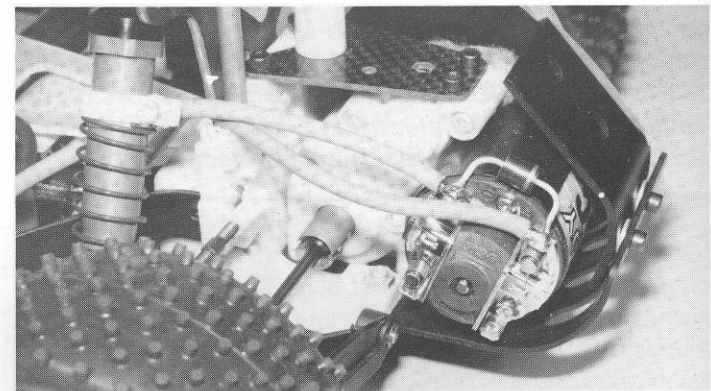

**Fig. 183**
□ **Figs. 183 & 184** Now we are going to hook up your speed control battery leads to our battery pack. We are using the new Reedy #652 power connector pins in our example. These pins make for an easy battery connect and disconnect system and have almost no power loss. (1) We will start with the positive terminal. Install the battery into the battery cup (make sure the positive connector is in the back left corner). (2) Now push the pins into the pin sockets. We are doing this so we can measure the wire lengths before we cut them. Make sure you leave a little slack in the wires so that they will not be hard to push in or pull out of the sockets. (3) Now solder the negative wire to the negative pin connector and the positive wire to the positive pin connector. (4) Because the speed control we are using is a three wire system, after you cut the positive lead wire you must solder one end of the piece you cut off into the other side of the positive pin so that it can be used to go to the motor positive terminal.